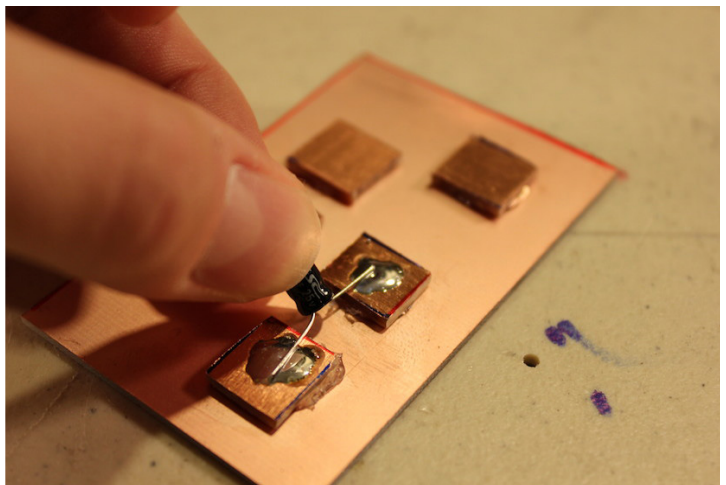

Figure 5
- Cut the excess off of the leads. (See figure 5)